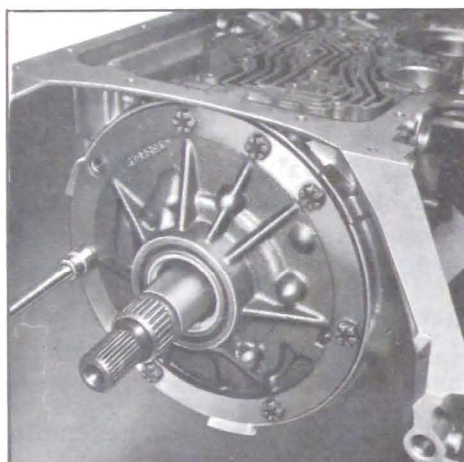

Figure 5-538
2. Remove the pump attaching bolts. See Figure 5-538.